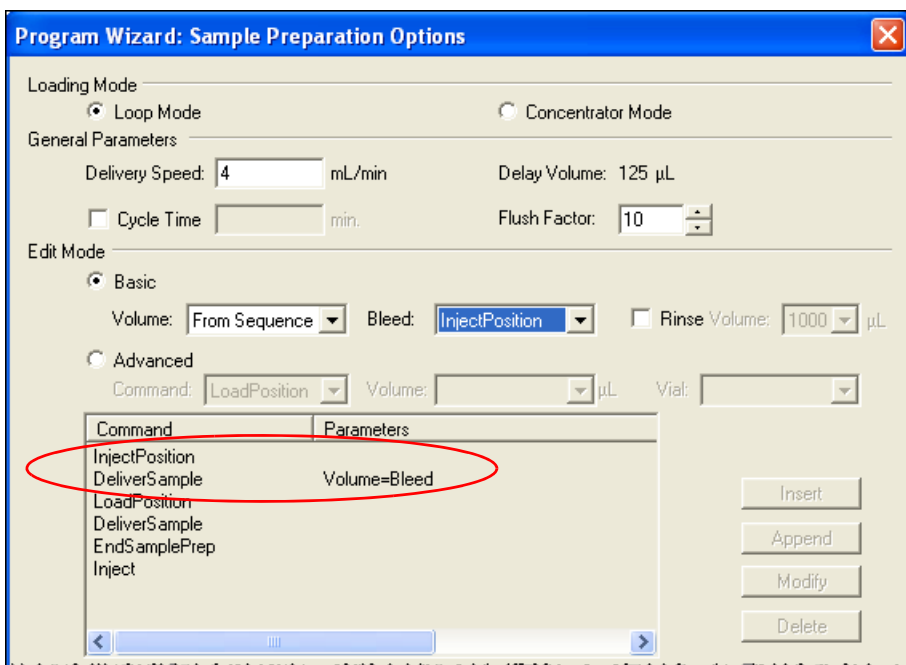
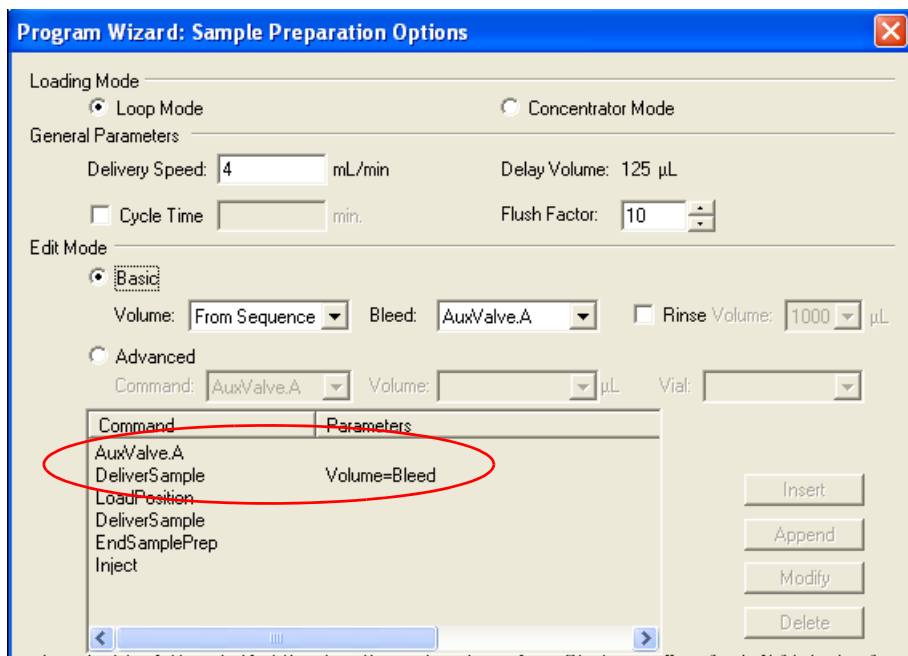

Figure 3-8. Sample Preparation Options (Chromeleon 6.8 Version Shown): Bleed Enabled Using the Injection Valve
Figure 3-9. Sample Preparation Options (Chromeleon 6.8 Version Shown): Bleed Enabled Using the Auxiliary Valve
1. If you are creating a new instrument method or program, go to the Sample Preparation Options page of the Instrument Method Wizard or Program Wizard (see Figure 3-8).
2. If you are using **Basic Edit Mode**: In the **Bleed** list, select the valve position that will direct the bleed to waste. For the typical injection valve plumbing, select **InjectPosition** (see Figure 3-8). For the typical auxiliary valve plumbing, select **AuxValve.A** (see
Figure 3-9). For suggested valve plumbing connections, see “Plumbing the Optional Valve” on page 94.
Selecting **Bleed** adds two commands to the **Command/Parameters** table (see Figure 3-8 and Figure 3-9):